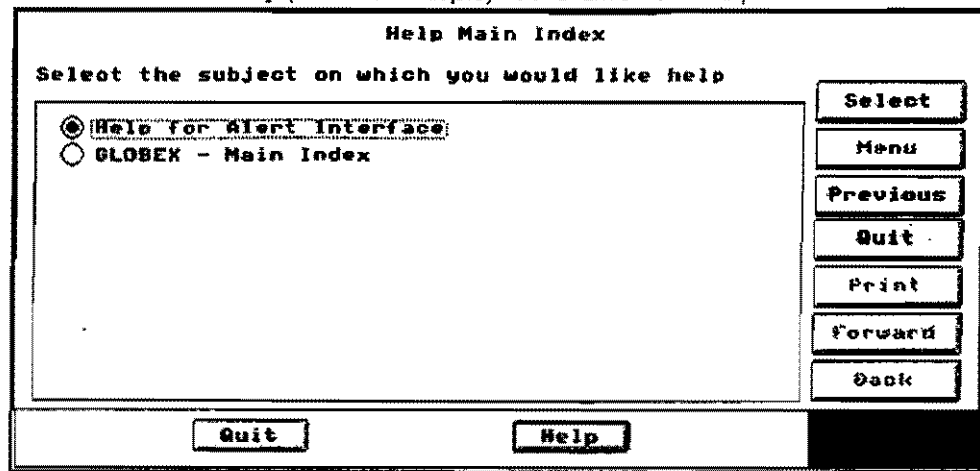

Figure 2.6 Index for Alert Interface/GLOBEX Help
- **MENU** - Displays a menu that lets you choose between the main index and help on the alert interface. (See Figure 2.6 below.)
3. Click on the **Menu** button in the Alert help text window. The index shown in Figure 2.6 displays.